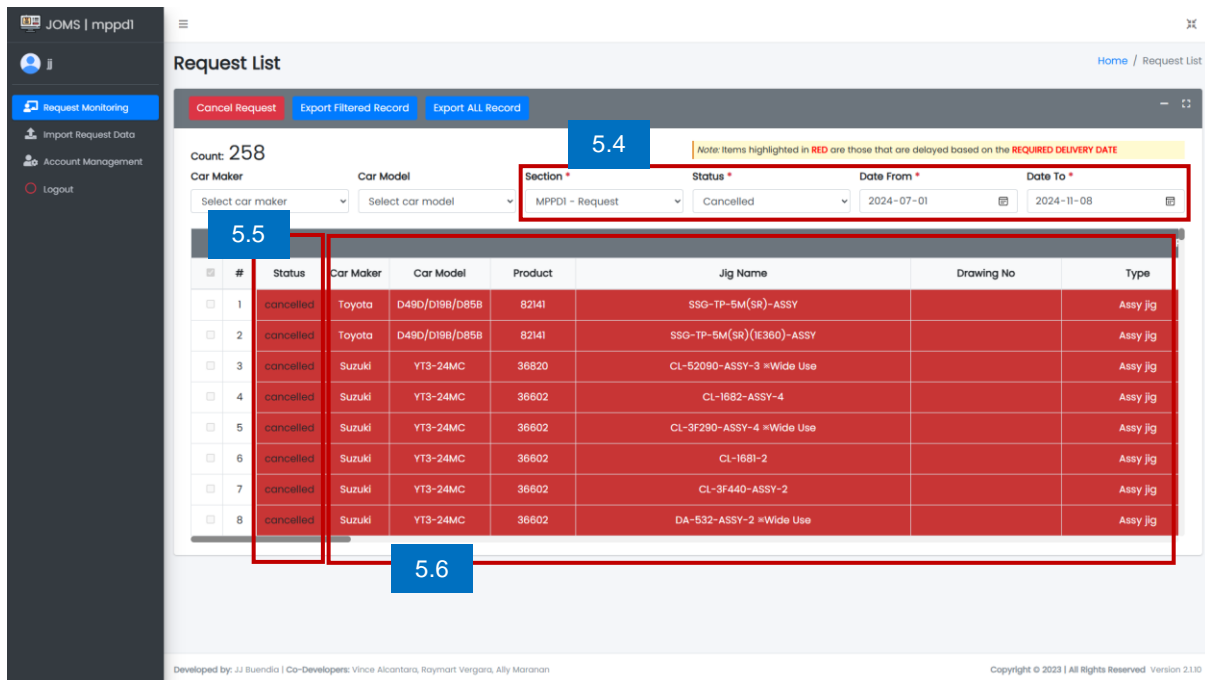

Figure 8. View Cancelled Data
5.4 Click Section, the Status must be Cancelled, then set the Date From and Date To. (See Figure 8)
5.5 Click Cancelled under Status column. (See Figure 8)
5.6 View the cancelled data. (See Figure 8)